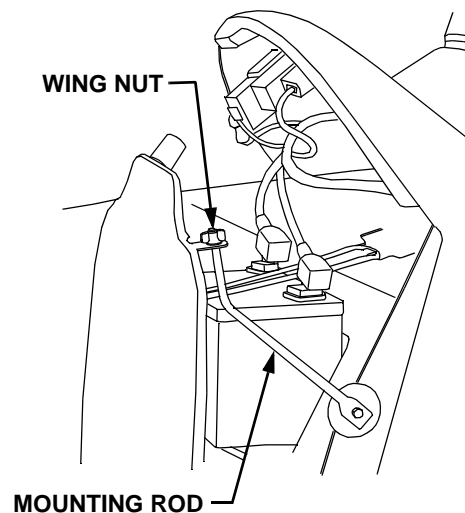

Figure 26
2. Remove the wing nut securing the LH mounting rod to the mounting tab on the left side of the bulkhead (See Figure 26). Pull the rod downward from the bulkhead tab.
10. Rotate the mounting rod downward and insert through the bottom of the hole in the bulkhead mounting tab (Refer to Figure 26).